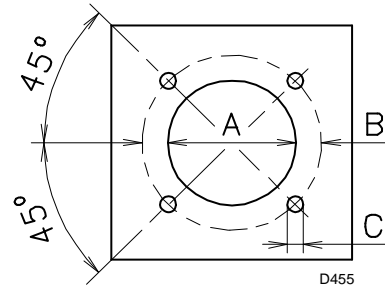

Fig. 9
Drill the combustion chamber locking plate as shown in Fig. 9.
- Place entire burner on the boiler hole arranged previously, (Fig. 9), and fasten with the screws given as standard equipment.